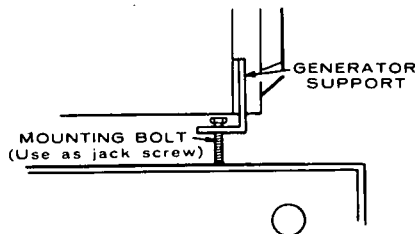

FIGURE 7
- After determining the proper clearance for each side of the skid base, turn jackscrews in the threaded holes to allow a clearance for placing the shims between skid base and generator support (Figure 7). Lower generator (using jackscrews) and allow to rest on shims. Recheck the total generator clearance, base to support; it must equal the base to support clearance plus the .035 inches.